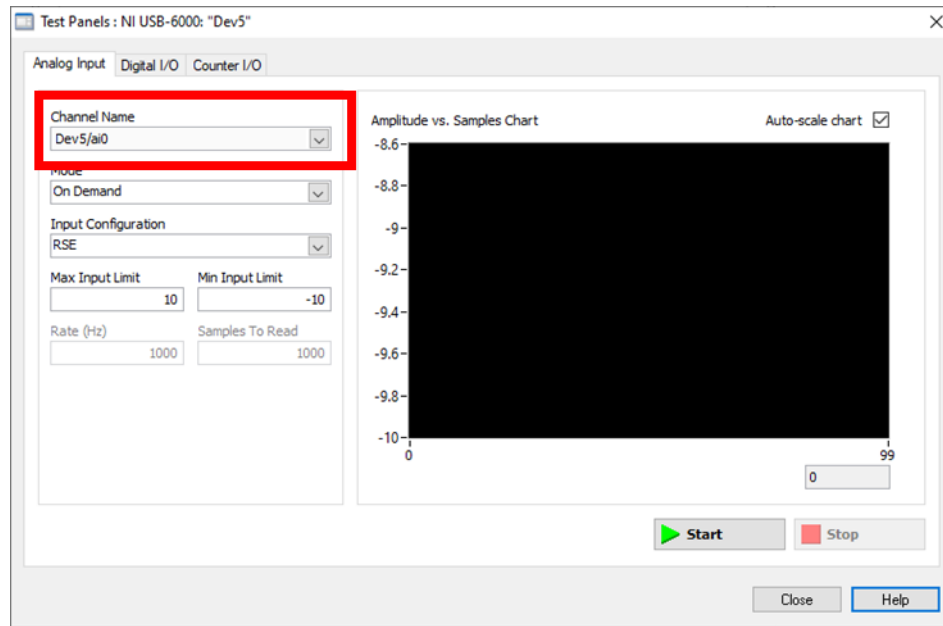
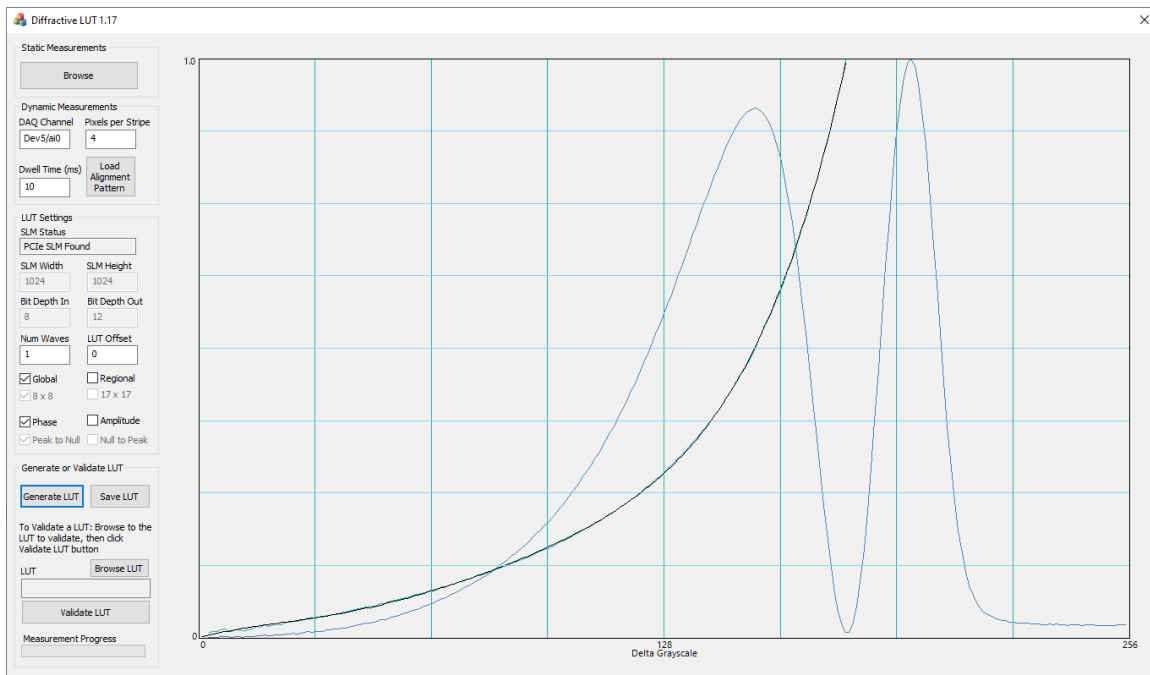
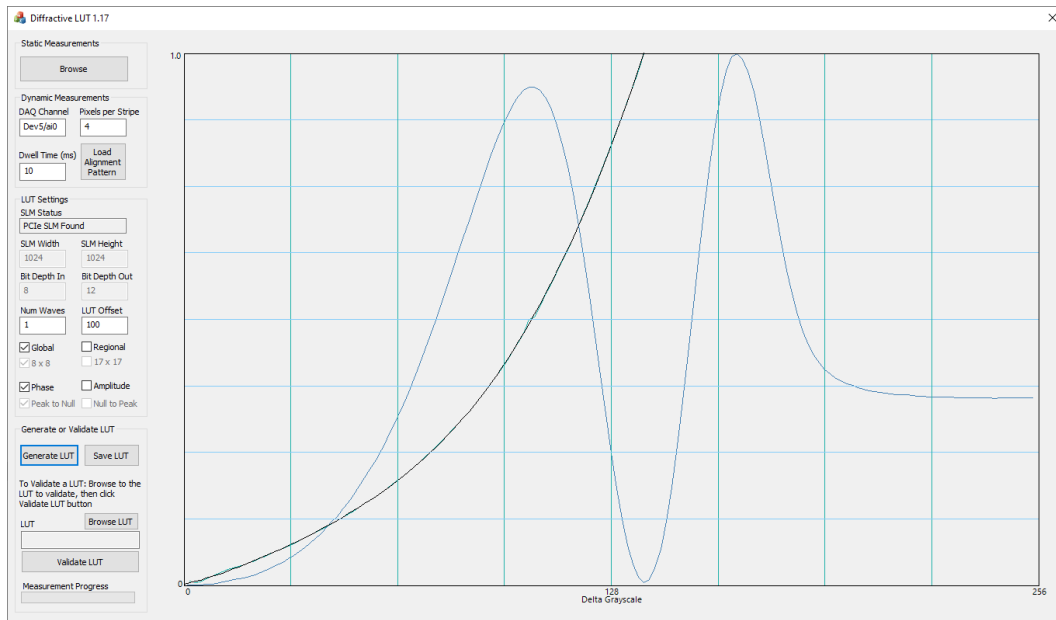

Figure 27 National Instruments Measurement and Automation Explorer used to read from your DAQ board.
Figure 28 Diffractive LUT GUI, shown with PCIe SLM attached for dynamic LUT generation.
Figure 29 Use LUT Offset to shift the voltage range of the LUT to maximize phase stability.
For dynamic LUT calibration the user should have the SLM attached and powered prior to opening Diffraction LUT. The software will be prepared to read from a National Instruments DAQ board. As shown in Figure 27, use National Instruments Measurement and Automation explorer to determine the Channel Name assigned to your DAQ board. The default Channel can be manually updated in C:\Program Files\Meadowlark Optics\Blink Plus\Cal Kit\Preferences.ini or directly through the Diffraction LUT GUI. Once the program is open you will see the GUI shown in Figure 28.
2. **LUT Offset.** The default process calibrates from a high voltage down to a phase difference of 2π . This results in the fastest response time, however it also results in the highest phase ripple. If the customer would like to reduce phase ripple the LUT offset can be used to shift the voltage range of the calibration. The voltage shift should be selected such that the SLM still has more than 1 wave of modulation. For example, in Figure 29 a LUT offset of 100 was used. This reduced the maximum voltage applied, and thus reduced the available modulation depth as compared to Figure 28. However, the SLM still has a full wave of modulation to calibrate over, and the shifted LUT can be saved.